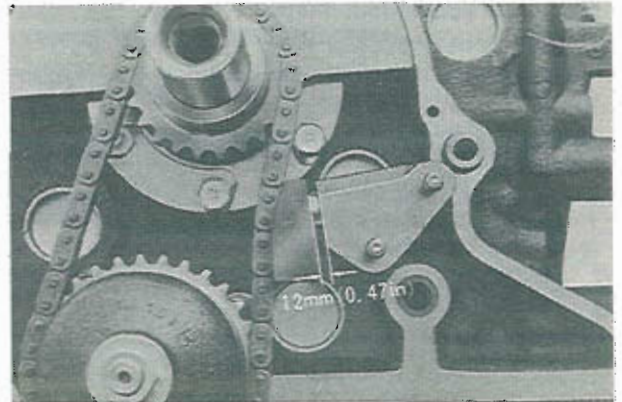

Fig. 2-6 Checking of chain adjuster protrusion
1. Check the amount of protrusion of the chain adjuster, as shown in Fig. 2-6. If the protrusion exceeds 12 mm (0.47 in), replace the adjuster or chain.